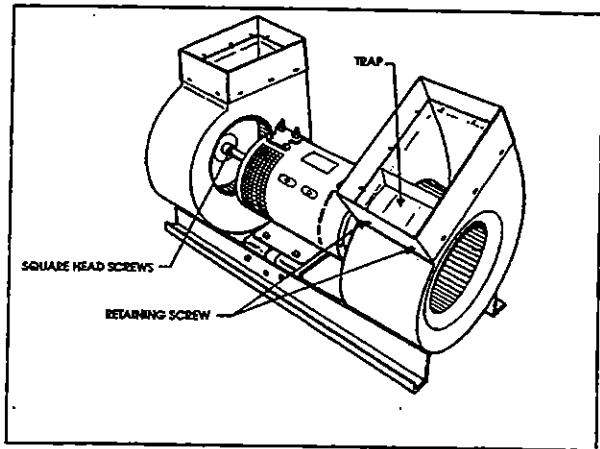

Figure 16: Evaporator Motor Assembly
7. From under the vehicle, remove the eight bolts retaining the evaporator fan motor support. Remove the complete unit from the HVAC compartment (Fig. 16).